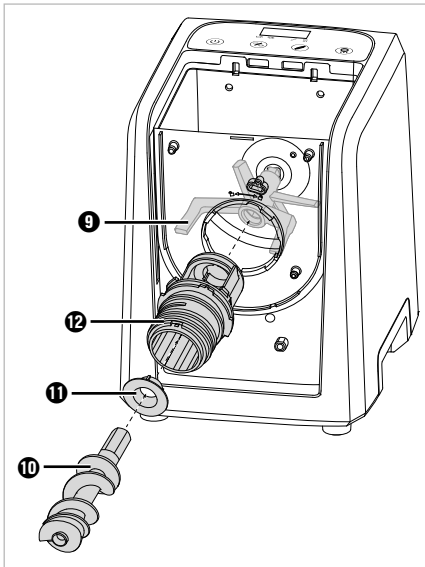
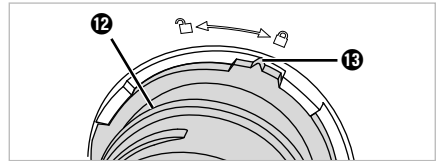

Fig. 3
Fig. 4
- 4) Push the support **11** into the end of the bracket **12** so that the three tabs on the support **11** slide into the grooves on the bracket **12** (**fig. 3**).
- 5) Mount the bracket **12** onto the dough container **15**. Push in the bracket **12** so that its narrow end goes through the round opening on the dough container **15** (**fig. 3**). The bracket **12** only fits into the opening in one position; the marking **13** must point towards the  symbol on the dough container **15**. Turn the bracket **12** clockwise until the marking **13** on the bracket **12** points to the  symbol (**fig. 4**):
- 6) Then push the dough shaft **10** with its narrow end through the bracket **12** into the retainer on the kneading hook **9** (**fig. 3**). If necessary, reach into the dough container **15** from above and wiggle the kneading hook **9** a little until you can push in the dough shaft **10**.